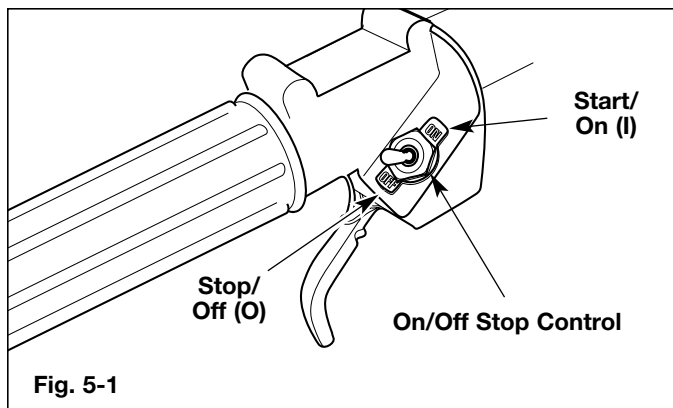
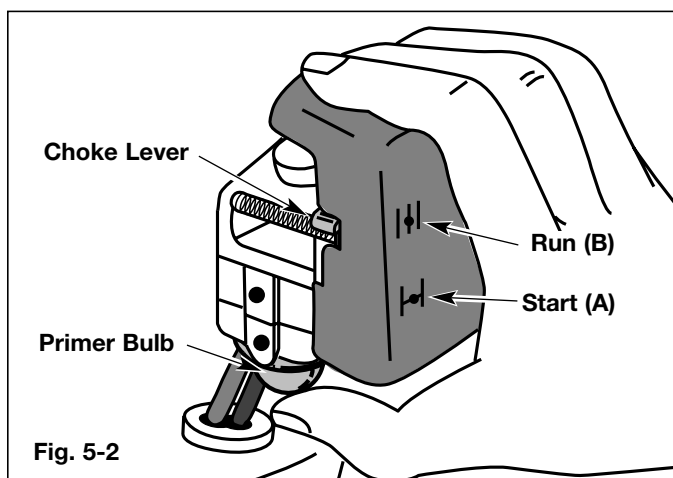
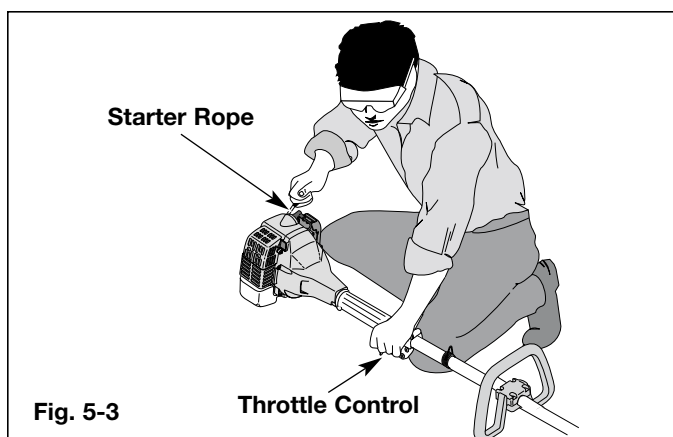

Fig. 5-1
Fig. 5-2
Fig. 5-3
2. Put the On/Off Stop Control in the **START (I)** position (Fig. 5-1).
3. Fully press and release primer bulb slowly 5 to 7 times. Fuel should be felt and visible in the bulb (Fig. 5-2). If fuel hasn't entered the bulb, press three more times, or until it does.
4. Place the choke lever in the **START (A)** position (Fig. 5-2).
5. With the unit on the ground, squeeze the throttle control and hold. Pull starter rope briskly (Fig. 5-3). Continue pulling until the engine sounds as though it wants to run (normally 2 to 5 pulls).
6. Place the choke lever in the **RUN (B)** position (Fig. 5-2).
7. Pull starter rope briskly 1 to 3 times to start the engine (Fig. 5-3).
**NOTE: If the engine floods while trying to start, place the choke lever in the RUN (B) position. Squeeze the throttle control. Pull the starter rope briskly. The engine should start within three (3) to eight (8) pulls.**
9. Squeeze the throttle control to warm up engine for 5 to 10 seconds. Place the choke lever in the **RUN (B)** position (Fig. 5-2).
**NOTE: Choking is unnecessary when starting a warm engine. Put the On/Off Stop Control in the START (I) position (Fig. 5-1), and the choke lever in the RUN (B) position (Fig. 5-2).**
1. Release your hand from the throttle control (Fig. 5-3). Allow the engine to idle.
2. To stop the engine, put the On/Off Stop Control in the **STOP [O]** position (Fig. 5-1).